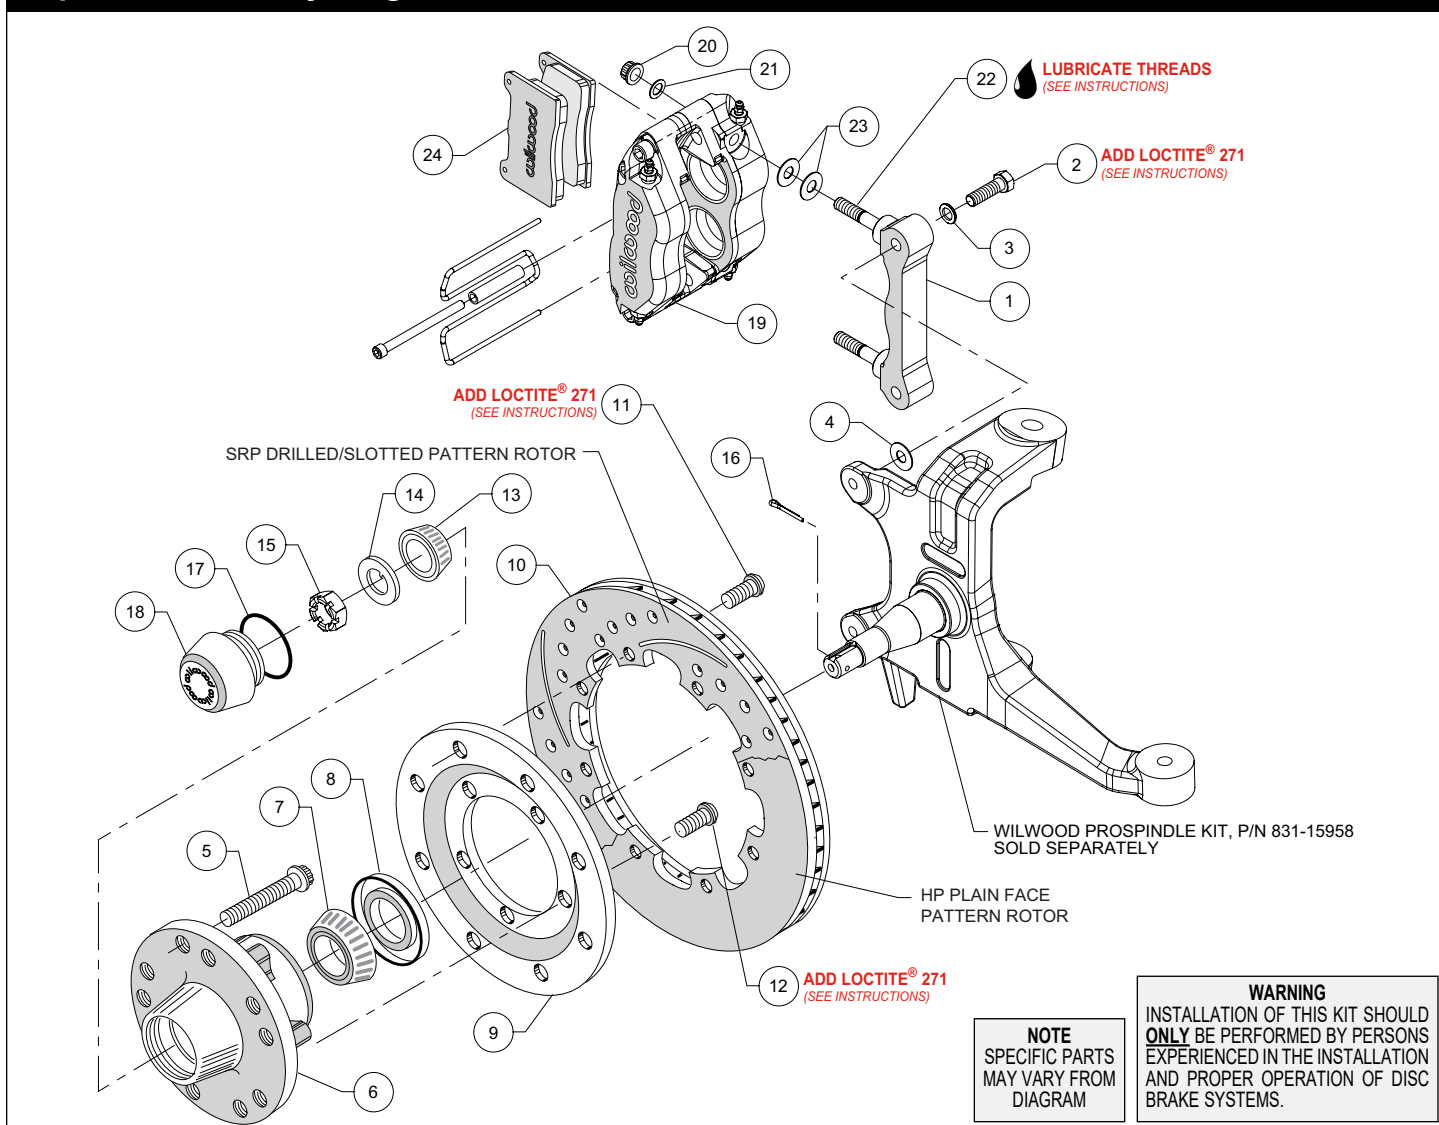

Figure 1. Typical Installation Configuration
NOTE: Numbers in parenthesis refer to the parts list and Figure 1 on the preceding pages.
•The caliper mount bracket (1) should initially be installed with clean, dry threads on the mounting bolts. Orient the bracket as shown in Figure 1 and Photo 1, and install using bolts (2) and washers (3). Initially place one .035 thick shim (4) on each bolt between the bracket and spindle, Figure 1. Temporarily tighten the mounting bolts. **NOTE:** *The bracket must fit squarely against the mounting points on the spindle.* Inspect for interference from casting irregularities, machining ridges, burrs, etc. Later, after the caliper alignment has been checked, the mount bolts will be secured using red *Loctite*® 271.
•Pack the large inner bearing cone (7) with high temperature disc brake bearing grease (available from your local auto parts store) and install into the backside of the hub (6), Photo 3.
•Install the grease seal (8) by pressing into the backside of the hub (6), flush with the end of the hub, Photo 3.
•Orient the rotor (10) and the rotor adapter (9) as shown in Figure 1 and Photo 4. Attach the rotor to the adapter using bolts (11). Using an alternating sequence, apply red *Loctite*® 271 to the threads, and torque to 25 ft-lb.
•Mount the adapter/rotor assembly (9 and 10) to the hub (6) using bolts (12), as shown in Figure 1 and Photo 5. Using an alternating sequence, apply red *Loctite*® 271 to the threads, and torque to 45 ft-lb.
•Pack the small outer bearing cone (13) with high temperature disc brake bearing grease and install into hub (6). Slide the hub/rotor assembly onto the spindle. Secure using spindle washer (14) and spindle nut (15), Photo 6. Bearing adjustment: Tighten the nut while turning the hub. When there is a slight bind on the bearings, they are seated correctly. Back the nut off about 1/6 to 1/4 of a turn, or sufficiently to allow .001" to .007" end play. **WARNING:** *Failure to back off adjusting nut could cause bearing to run hot and be damaged, which could cause the wheel to lock or come off.* Install new cotter pin (16).
- Lubricate the caliper mounting studs (22) with lightweight oil. Initially place two .035" thick shims (23) on each stud between the caliper and the bracket, as shown in Figure 1 and Photo 8. Mount the caliper (19) onto the bracket (1) using lock nuts (20) and washers (21), Figure 1. Temporarily tighten the lock nuts and view the rotor through the top opening of the caliper. The rotor should be centered in the caliper, Photo 9. If not, adjust by adding or subtracting shims (4) between the bracket and the spindle. Always use the same amount of shims on each of the two mounting bolts. Once the caliper alignment is correct, remove the bracket mounting bolts (2) one at a time, apply red Loctite® 271 to the threads, and torque to 40 ft-lbs.
- Insert the brake pads (24) into the caliper with the friction material facing the rotor (10), as shown in Figure 1 and Photo 10. Check that the top of the brake pad is flush with the outside diameter of the rotor, Photo 11. If not, adjust by adding or subtracting shims (23) between the caliper and the bracket. After the caliper pad height is set, torque the caliper lock nuts (20) to 30 ft-lb. Secure the pads in place using the pad clip retainer as well as the center bridge pad retainer tube, bolt, and locknut, Photo 12. The locknut should be snug without play in the bolt or tube. Be cautious not to over tighten.